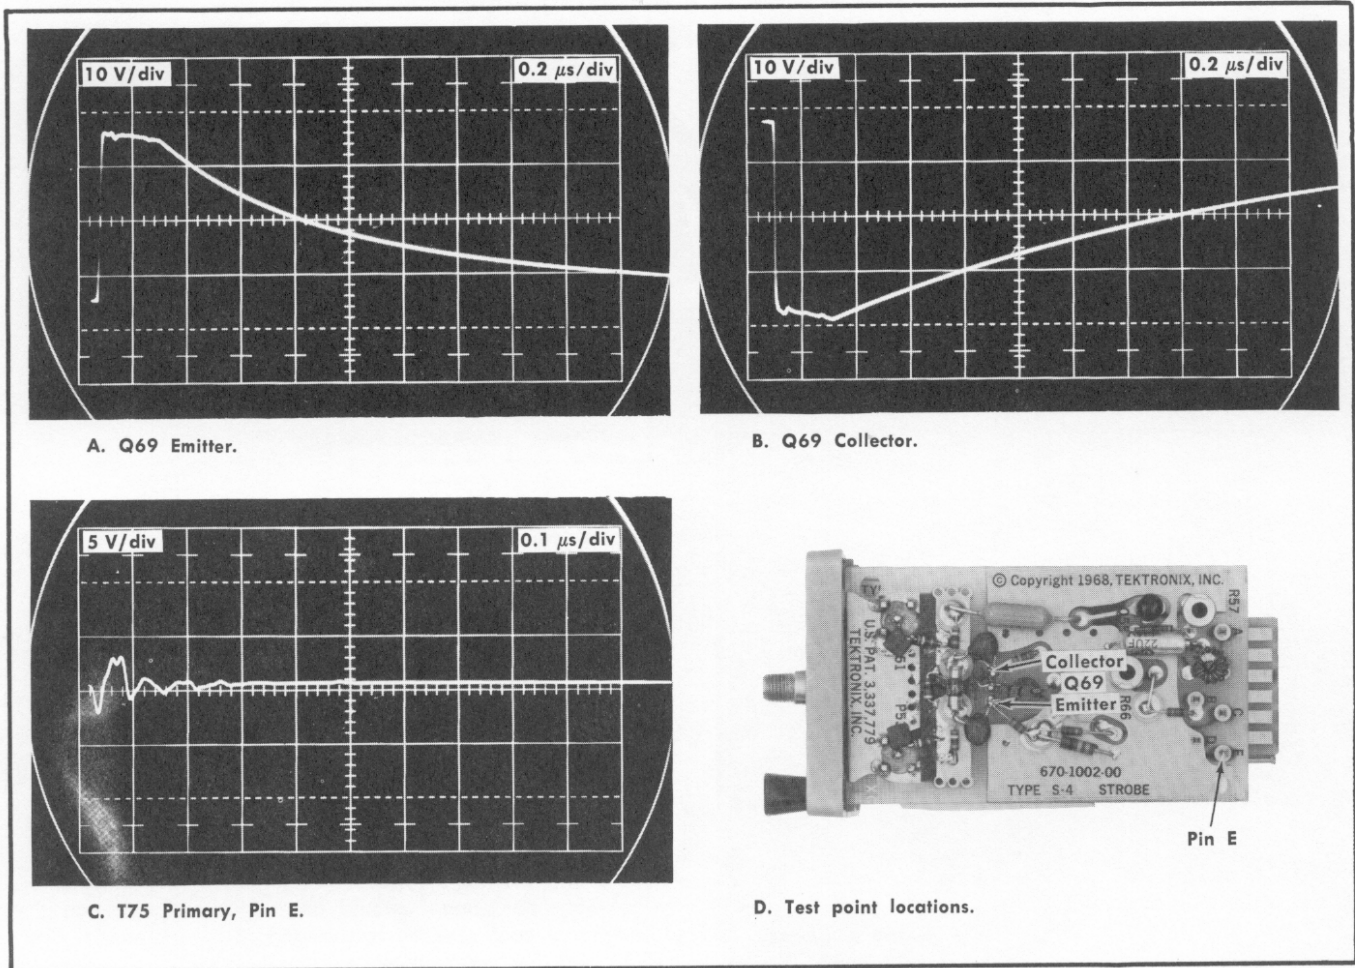

Fig. 5-3. Typical displays for Q69 operation.
d. Check for proper strobe operation by connecting a $10\times$ probe from the test oscilloscope to the emitter of Avalanche transistor Q69. Amplitude of the waveforms is affected by adjustment of Avalanche Volts control R66. Check the waveforms at the collector of Q69 and at the Primary of T75 (Pin E of the Strobe Board). Typical displays are shown in Fig. 5-3.